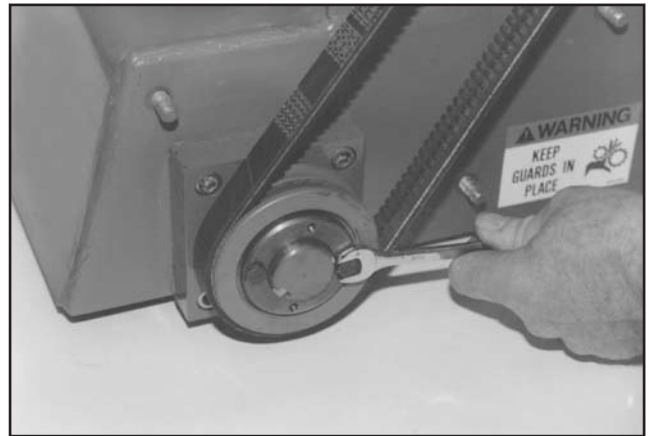

FIGURE 31
c) Insert the 1/4 inch diameter cap screws into the tapped holes in the pulley. Tighten progressively until the bushing applies tension to the pulley. FIGURE 31.